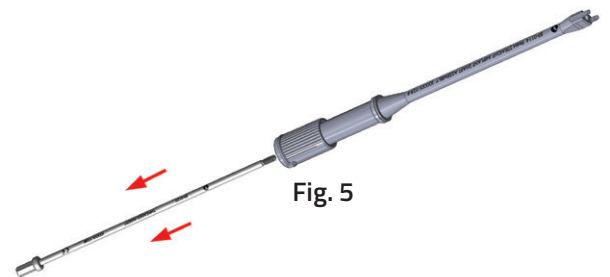

Fig. 5
- f) Slowly tilt the Inserter Shaft so that the prongs are higher than the ribbed collar to remove the Threaded Insert. (Fig. 5)